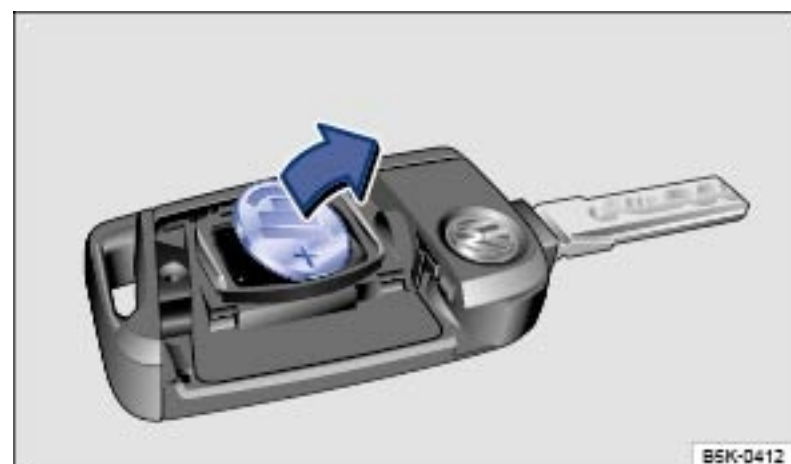

Fig. 25 Remote control vehicle key: Remove old battery.
- › Use a thin object to pry the battery out of the battery compartment → Fig. 25.
- › Position the new battery in as shown → Fig. 25 and press it into the battery compartment (opposite direction of the arrow) →!.